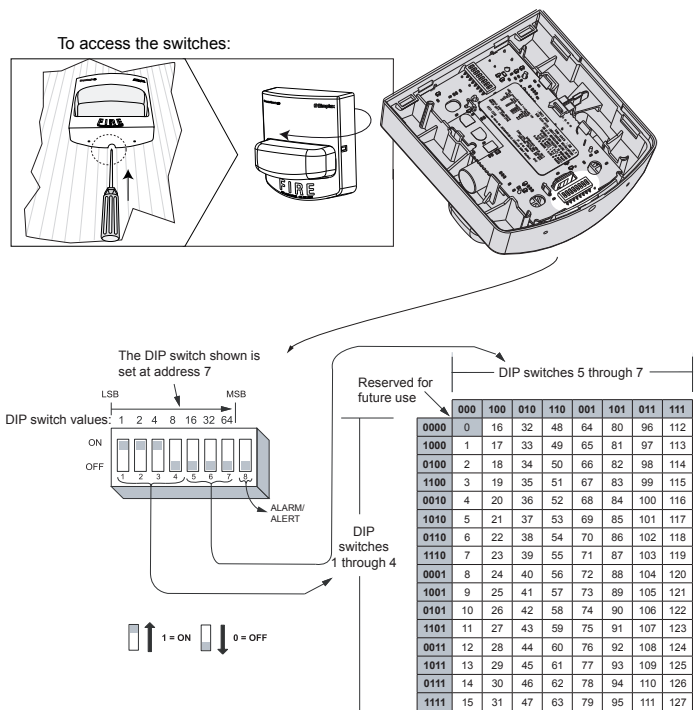

Fig 3: Setting the DIP switch address
Each addressable TrueAlert IDNAC notification appliance has a unique address that is set using an eight-position DIP switch (ADDR1). Assign a unique SLC address in the range 1 to 127. See the chart in Figure 3: Setting the DIP switch address on page 3. However, the total appliance loading available may be less due to appliance current requirements.
1. Insert a number 2 Phillips screwdriver, or similar sized object into the opening at the bottom of the cover, and unclip the appliance from the backplate. See Figure 3: Setting the DIP switch address on page 3.
4. The position of DIP switch 8 determines whether this appliance is viewed by the system as an 'ALARM' (OFF) or 'ALERT' (ON) type appliance. Confirm the setting for the appliance at this address with the FACP system configuration documentation.